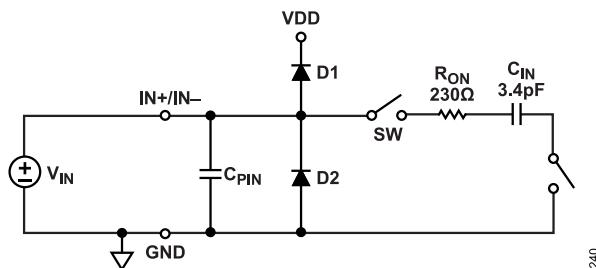

Figure 43. Equivalent Analog Input Circuit
Figure 43 shows an equivalent circuit for each of the AD4062 analog inputs (IN+ and IN-). The analog inputs are modeled as a switched capacitive load. During the acquisition phase, the sampling switch (SW) connects each input pin to the 3.4pF sampling capacitor (C_{IN}) in series with the 230 Ω switch on resistance (R_{ON}). During the conversion phase, SW disconnects to sample the voltages on the IN+ and IN- pins onto the sampling capacitors. D1 and D2 represent the ESD diodes from the IN+ and IN- pins to the VDD supply and GND, respectively. C_{PIN} represents the pin capacitance of each input pin to GND and is typically 2pF.